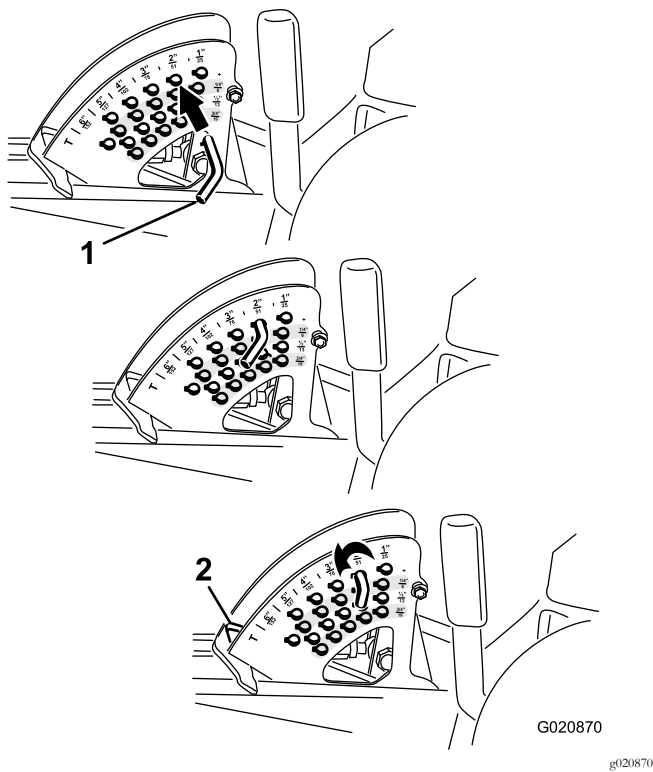

Figure 27
- Rotate the stop pin until the roll pin in it lines up with the slots in the holes in the height-of-cut bracket and remove it (Figure 27).
- Select a hole in the height-of-cut bracket corresponding to the height of cut desired, insert the pin, and rotate it down to lock it in place (Figure 27).
Note: There are 4 rows of hole positions (Figure 27). The top row gives you the height of cut listed above the pin. The second row down gives you the height listed plus 6 mm (1/4 inch). The third row down gives you the height listed plus 12 mm (1/2 inch). The bottom row gives you the height listed plus 18 mm (3/4 inch). For the 15.8 cm (6 inch) position, there is only 1 hole, located in the second row. This does not add 6 mm (1/4 inch) to the 15.8 cm (6 inch) position.